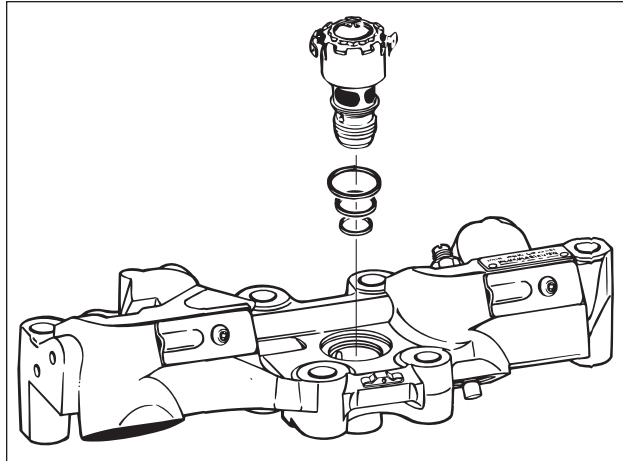

FIG. 11
2. Remove and discard the three rubber seal rings (see Fig. 11). If the lower ring stays in the bottom of the housing solenoid bore, remove with a seal pick.